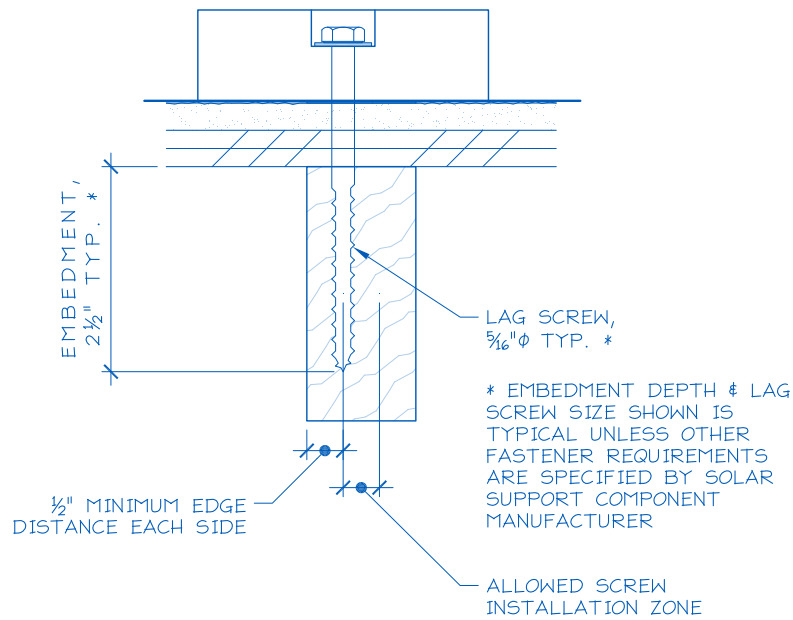

Figure 3 - Typical Anchor with Lag Screw Attachment
1) Anchor fastener data (see Figure 3):